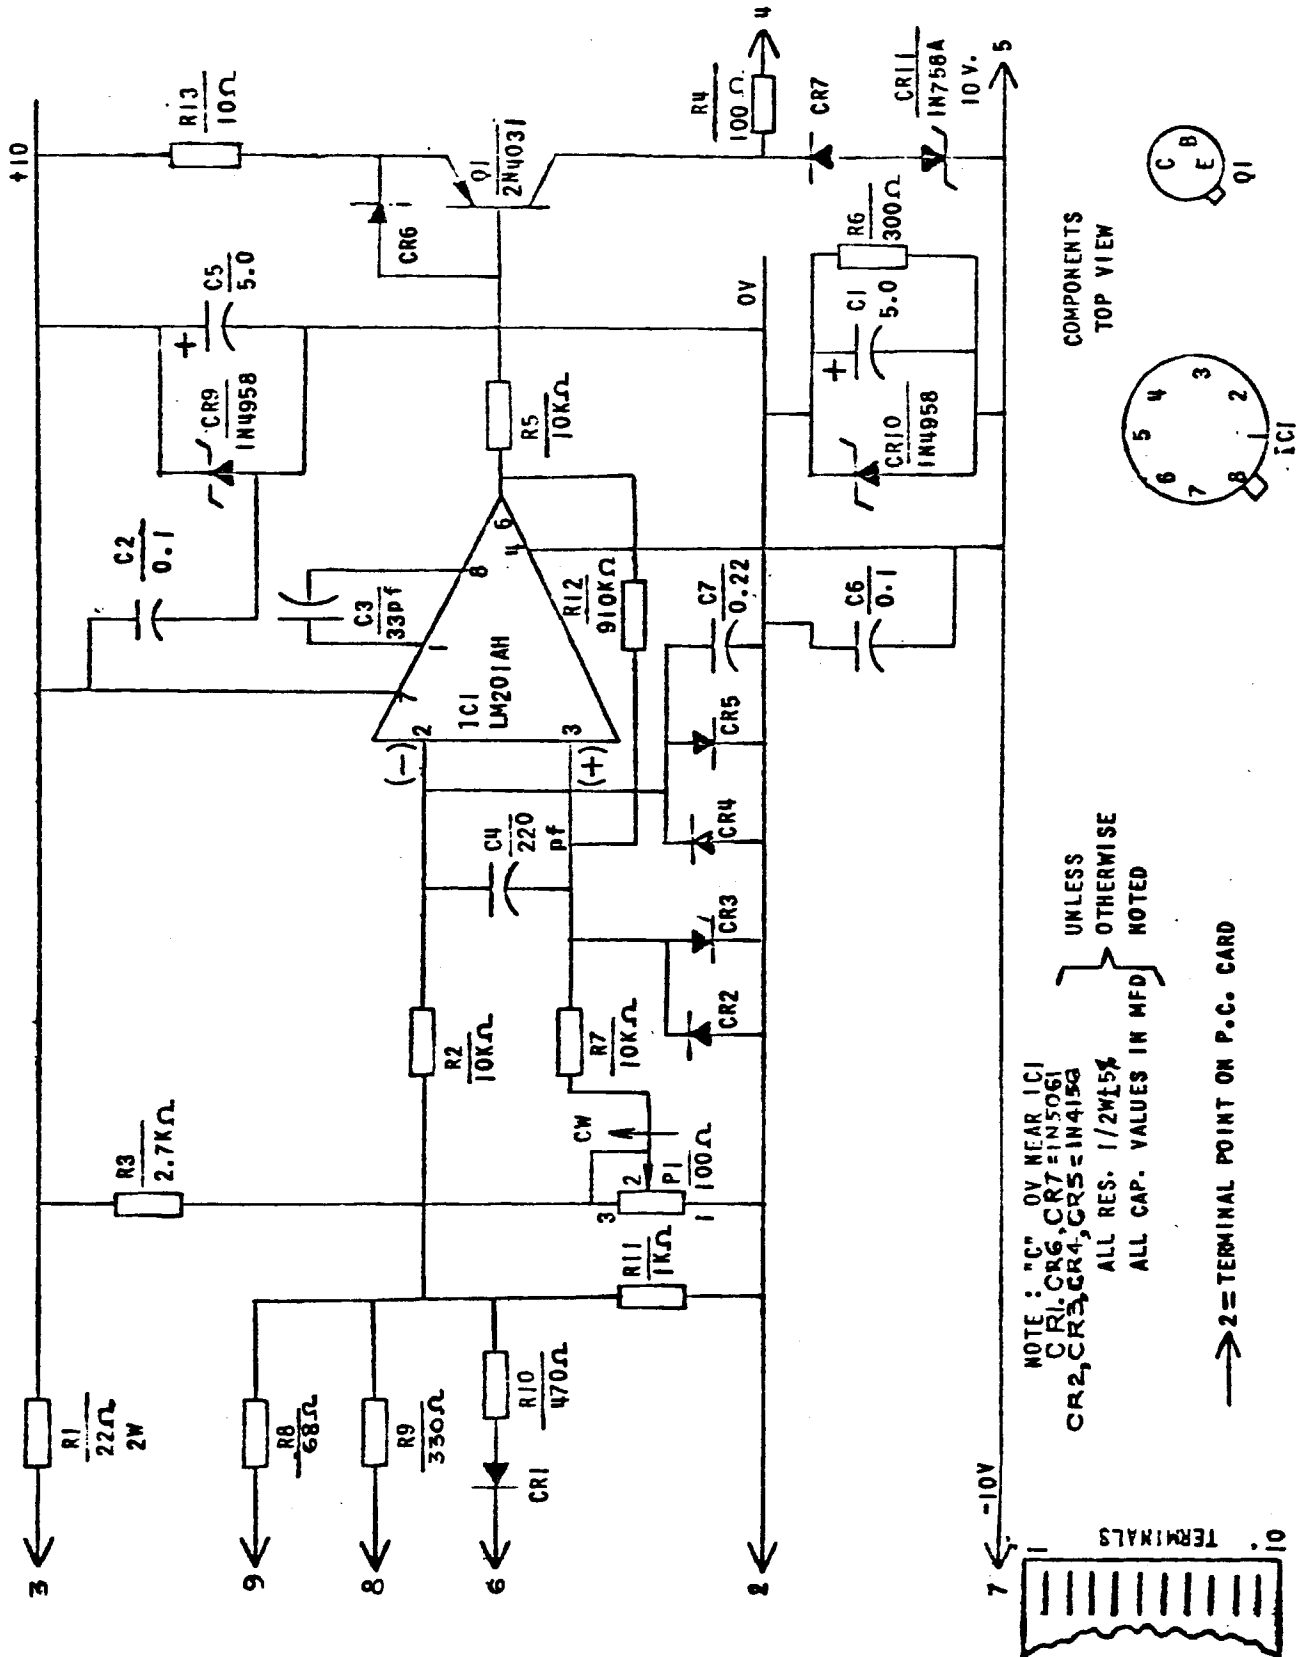

Figure 3 (0285A6749-0) Internal Connections Diagram of Sense Amplifier Printed Circuit Board
- Figure 3 - shows the internal connections diagram of the sense amplifier printed circuit board.